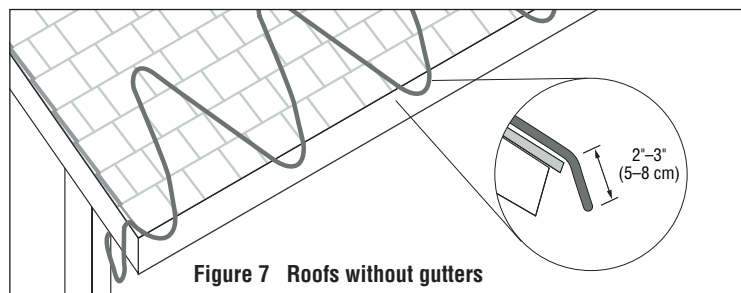

Figure 7 Roofs without gutters
- For roofs without gutters, route the heating cable as shown in Figure 7.